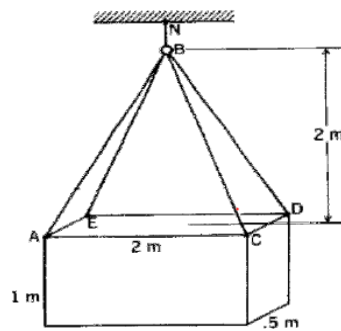

Figure 1
1. A block having a mass of 500 kg is held by five cables as shown in Fig. 1. What are the tensions in these cables? Lower cables are identical and are identically connected at ends.